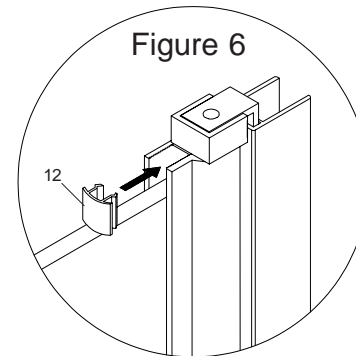

Figure 6
5. Insert hinge rail plug (12) into hinge rail at end opposite the bottom rail and apply a small amount of silicone in end of hinge rail plug so plug cannot slide out (See Figure 6).